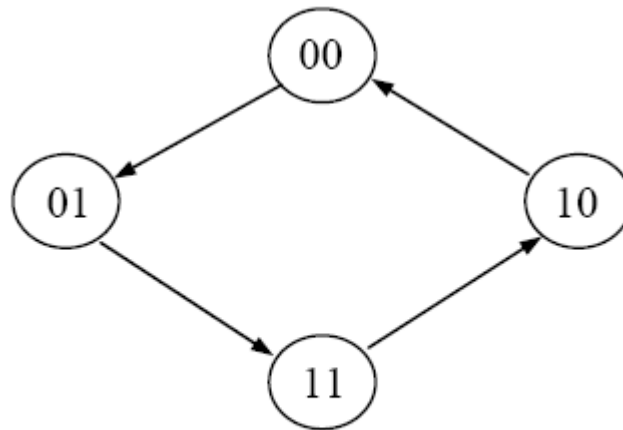

Fig. 2
a) In the pre-lab using LogicWorks and then in the lab using hardware chips, design a 2-bit gray code counter using JK flip-flops. The required sequence is the binary equivalent of (0-1-3-2-0). A state diagram for this counter is given in Fig. 2.